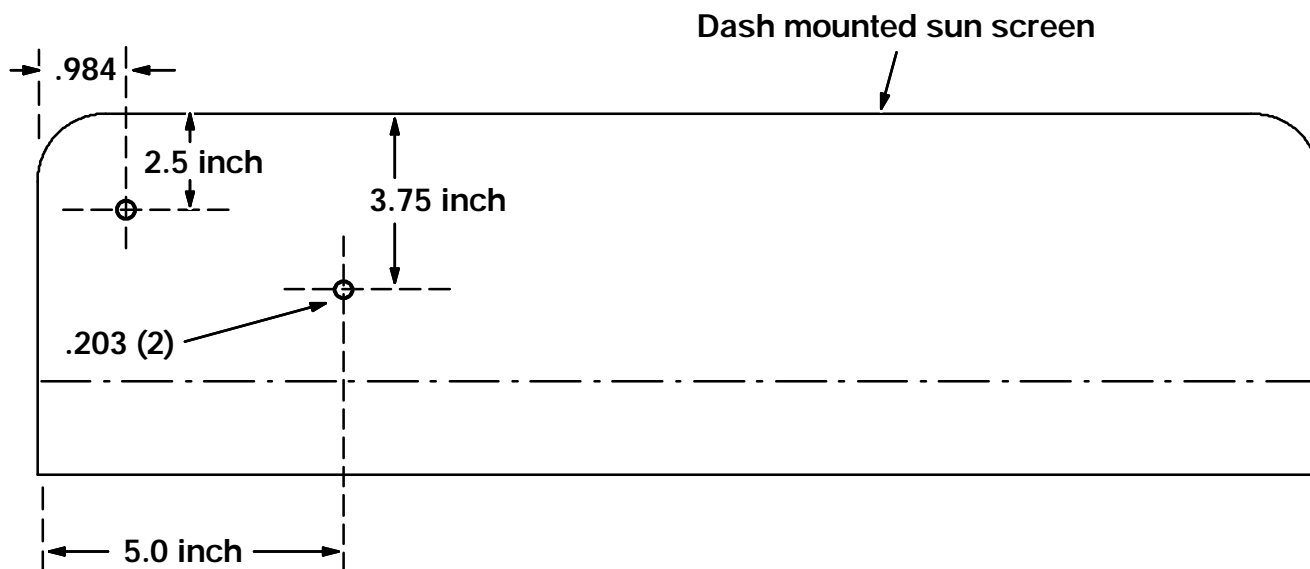

FIG. 2 - Dash Sun Screen Hole Location
4. Locate the magnetic pickup (2) in this kit. Run the two jam nuts all the way back to the shrink tubing. Coat the threads with a thread sealant (Loctite PST or equal).
5. Screw the magnetic pickup (2) into the threads in the housing until it makes contact with the gear tooth.
6. Back the magnetic pickup (2) out of the housing, away from the gear tooth, 1/4 to 1/2 turn. **This is very critical--**if the pickup is too far away--it will not function, if it is too close--the gear tooth will shear off the magnet.
8. Route the wiring harness (8) in the cab. The yellow and blue wires with the weatherpak connector are routed out the bottom of the cab and down to the magnetic pickup. The white wire is spliced to # 63 white at the FU-8 in the fuse box. The black wire is attached to the ground terminal of the cigarette lighter with 13K. The yellow wire is spliced to the yellow # 32A at terminal 87 of relay M6.
9. Use the dimensions in FIG. 2 to mark and drill two .203 in. mount holes in the dash mounted sun visor.